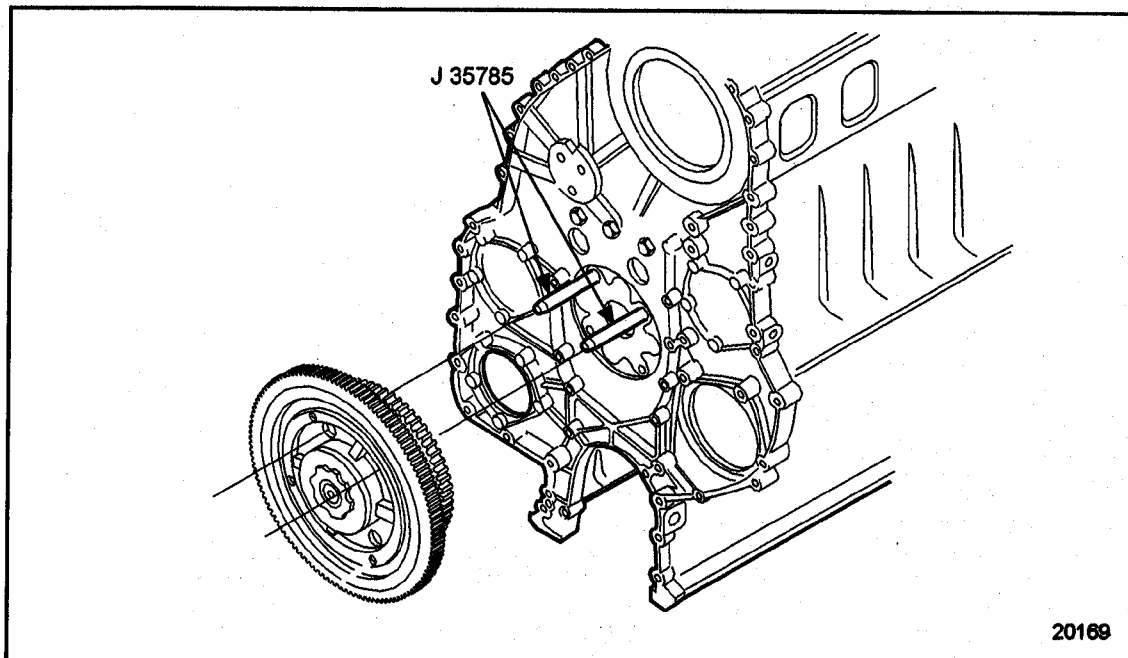

Figure 1-380 Bull Gear Guide Stud Installation
2. Install two Bull Gear Guide Studs, J 35785, to the cylinder block. See Figure 1-380.